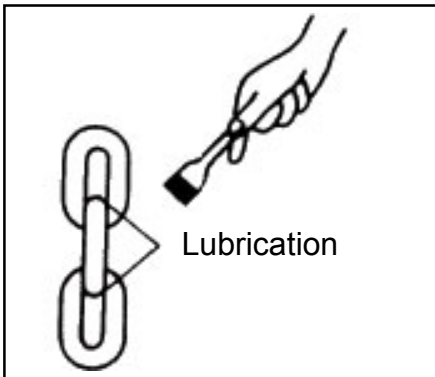

FIGURE 1
- Lubricate the load chain along the whole length with non-acid, non-corroding machine oil (See Figure 1).